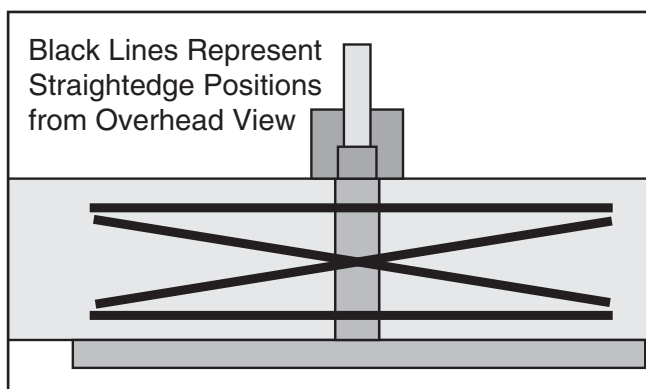

Figure 73. Straightedge positions for checking jointer table parallelism.
3. Place the straightedge in one of the positions shown in **Figure 73**.